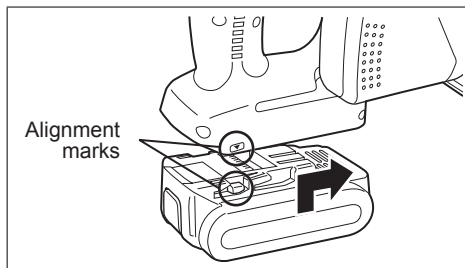

Fig. 2
1. To connect the battery pack (See Fig. 2)